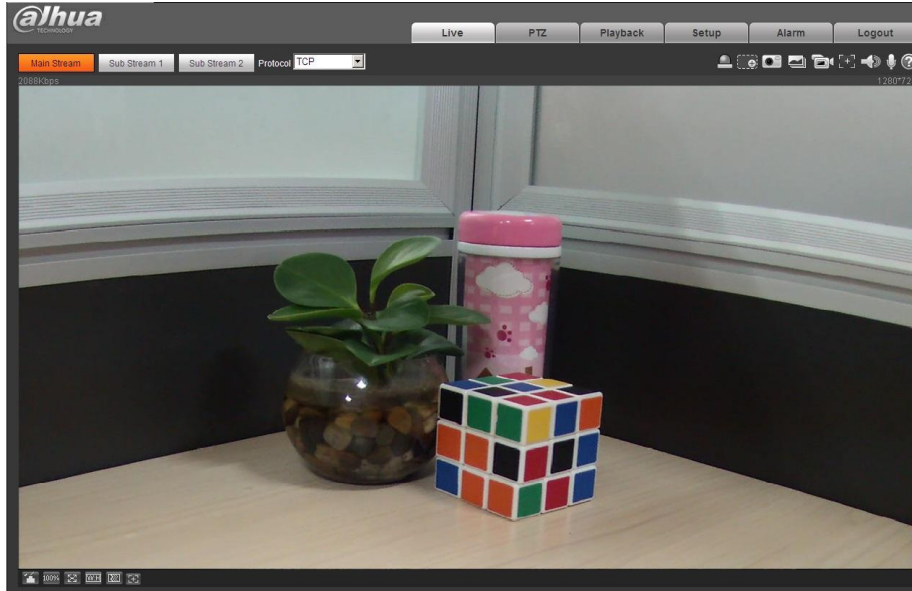

Figure 3-4
Step 3 Click Here to Download Plug-in, and then install controls according to the system prompt. See Figure 3-4 for the WEB main interface.